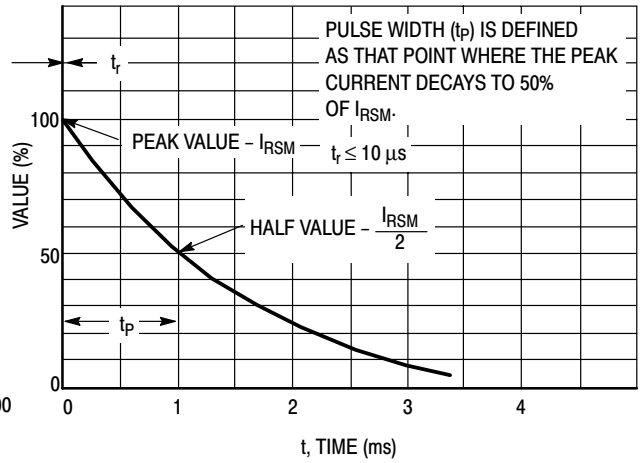
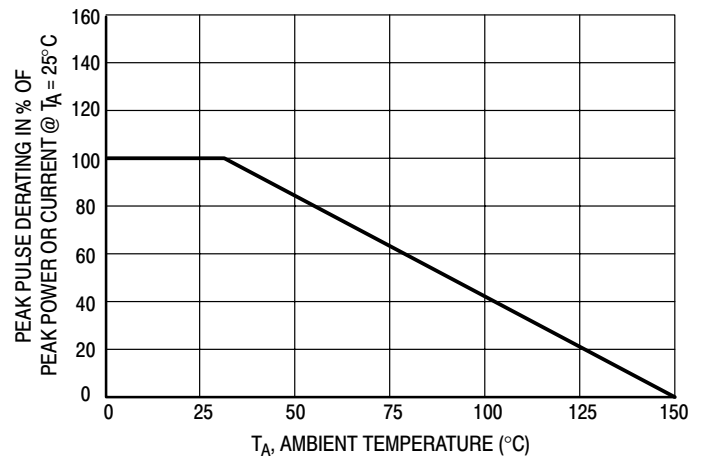

Figure 2. 10 X 1000 µs Pulse Waveform
Figure 4. Pulse Derating Curve
7. Surge current waveform per Figure 2 and derate per Figure 4.